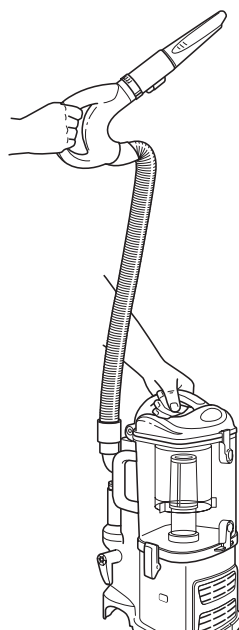

Fig. 15
- 4 Press the On/Off switch to the "1" position to turn the vacuum on for above-floor cleaning and hold the handle in one hand while you carry the portable *Lift-Away*® around the house with the other hand. (Fig. 15)